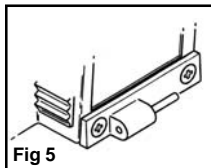

Fig 5
- Fit the Mounting Bar with the pin pointing to the right and secure with screws removed in step 1 (Fig 5)